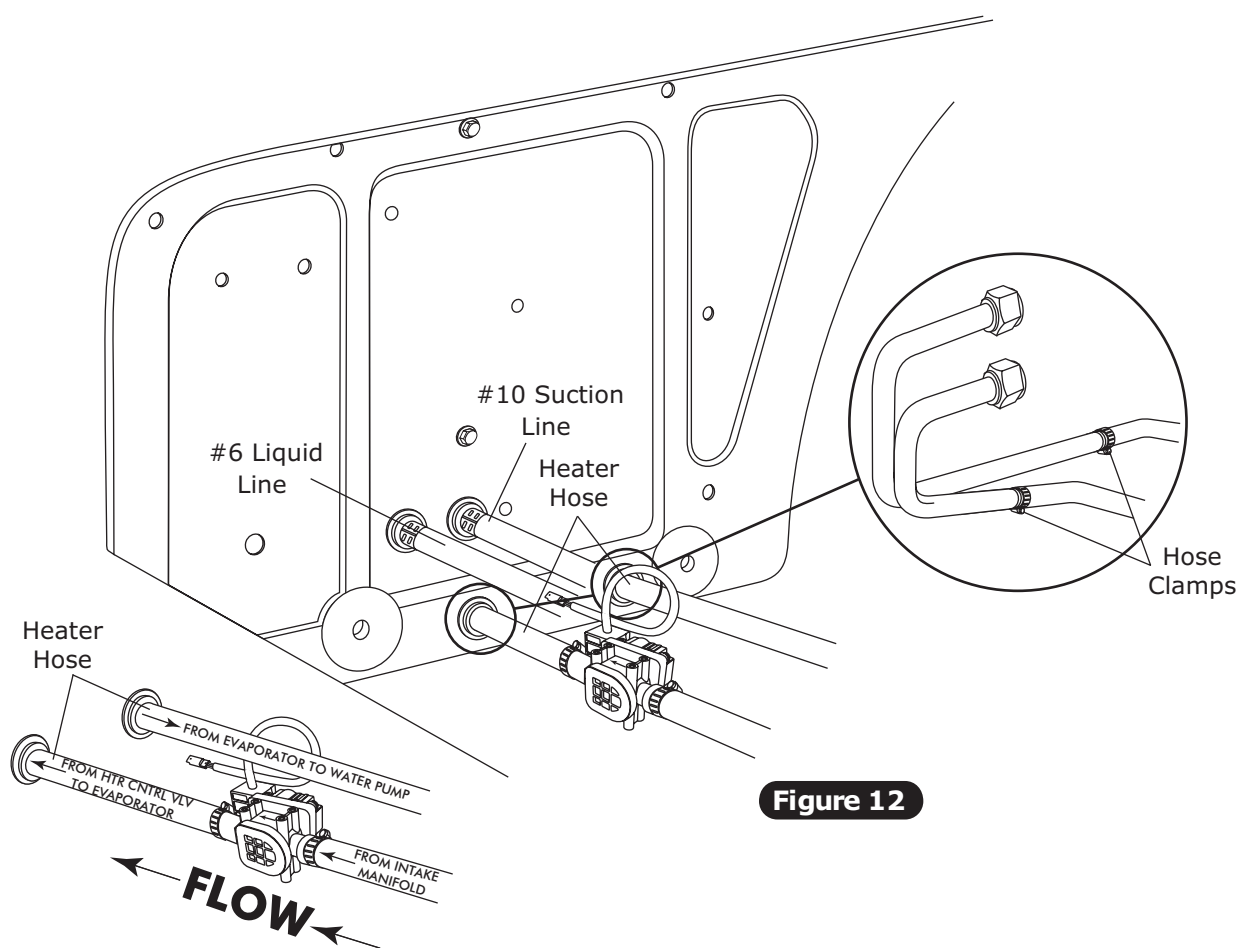
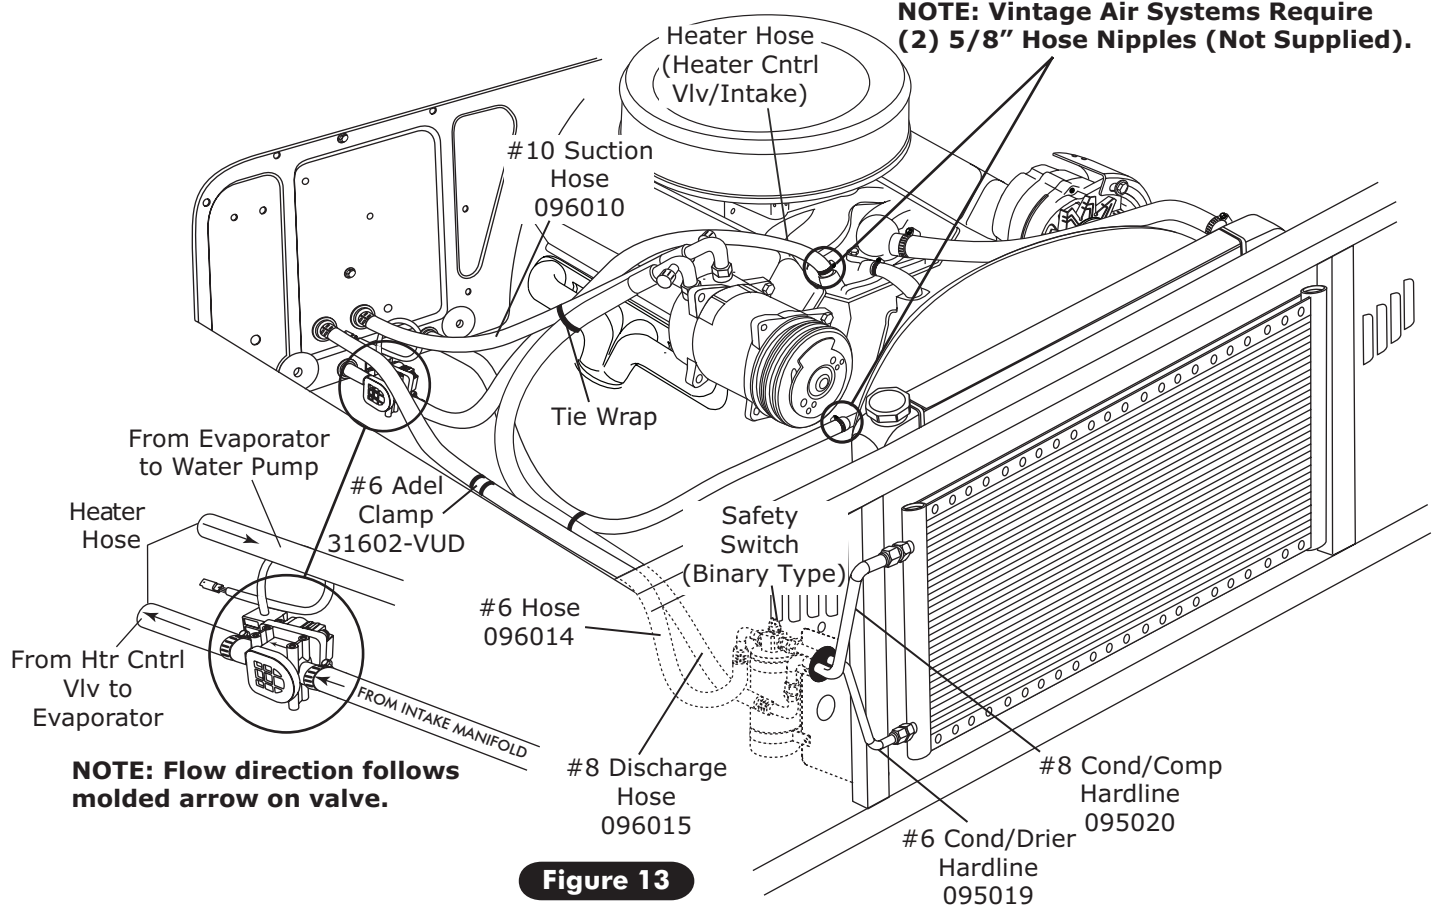
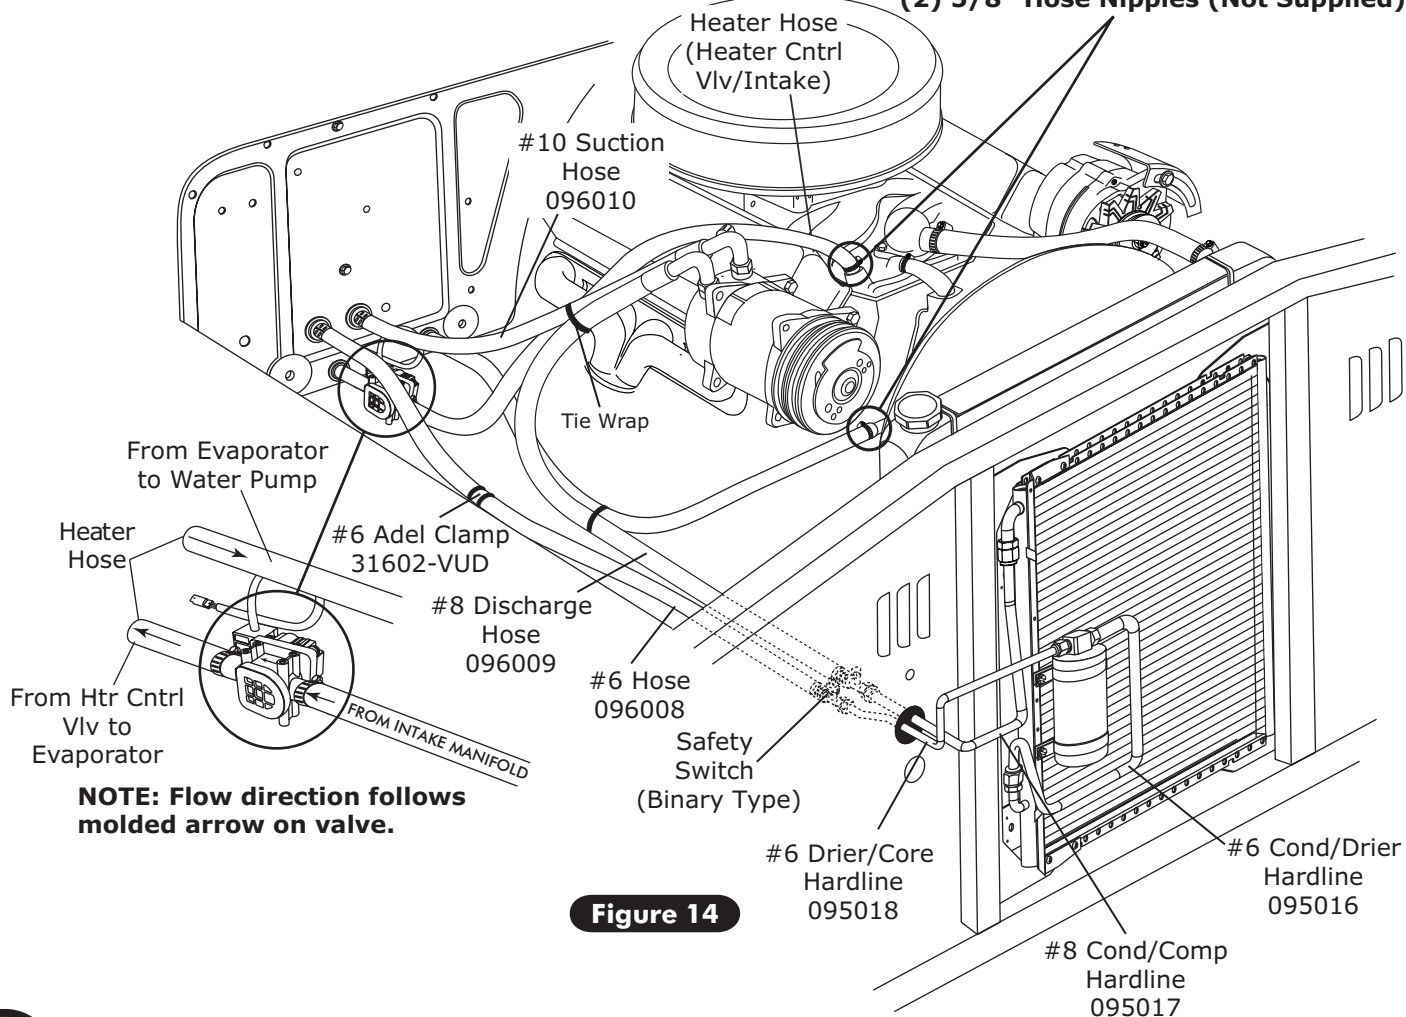

Figure 12
Figure 13
Figure 14
1. Route 90° heater hose through the firewall and connect to heater line on evaporator as shown in Figure 12, below. Route the other end of the hose to the water pump, and secure using hose clamps. **Note: A small amount of silicone spray will ease heater hose installation.**
1. Locate the #8 compressor A/C hose. Lubricate (2) #8 O-rings (See Figure 11, Page 12) and connect the 135° female fitting with R134a service port to the #8 discharge port on the compressor. Route the 90° female fitting to the #8 condenser hardline coming through the core support (See Figure 13, below). Tighten each fitting connection as shown in Figure 11, Page 12.
2. Locate the #10 compressor A/C hose. Lubricate (2) #10 O-rings (See Figure 11, Page 12) and connect the 135° female fitting with R134a service port to the #10 suction port on the compressor. Route the 90° female fitting to the #10 evaporator (See Figure 12, Page 13, and Figure 13, below). Tighten each fitting connection as shown in Figure 11, Page 12.
3. Locate the #6 evaporator/drier hose. Lubricate (2) #6 O-rings (See Figure 11, Page 12) and connect the 90° female fitting to the #6 evaporator hardline (See Figure 12, Page 13, and Figure 13, below). Tighten each fitting connection as shown in Figure 11, Page 12.
1. Locate the #8 compressor A/C hose. Lubricate (2) #8 O-rings (See Figure 11, Page 12) and connect the 135° female fitting to the #8 discharge port on the compressor. Route the straight female fitting with R134a service port to the #8 condenser hardline coming through the core support (See Figure 14, below). Tighten each fitting connection as shown in Figure 11, Page 12.
2. Locate the #10 compressor A/C hose. Lubricate (2) #10 O-rings (See Figure 11, Page 12) and connect the 135° female fitting with R134a service port to the #10 suction port on the compressor. Route the 90° female fitting to the #10 evaporator (See Figure 12, Page 13, and Figure 14, below). Tighten each fitting connection as shown in Figure 11, Page 12.
3. Locate the #6 evaporator/drier hose. Lubricate (2) #6 O-rings (See Figure 11, Page 12) and connect the straight female fitting with binary switch service port to the #6 drier hardline coming through the core support. Route the 90° female fitting to the #6 evaporator hardline (See Figure 12, Page 13, and Figure 14, below). Tighten each fitting connection as shown in Figure 11, Page 12.